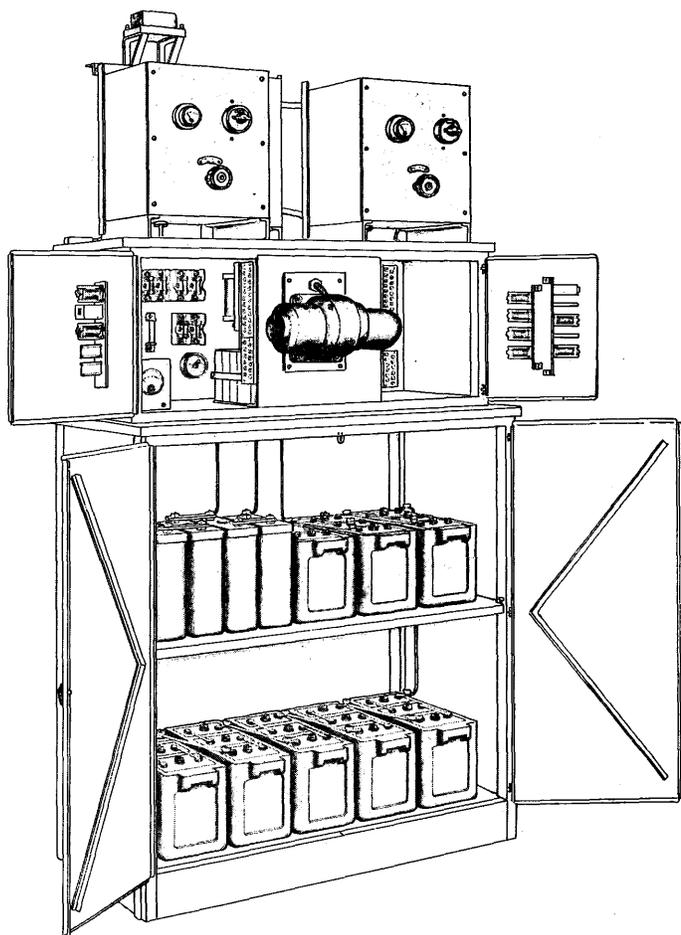

Fig. 4.
5.1 The power plant for the No. 740-A and No. 740-B P B X's is approximately 4 feet long and 7 feet high (see Fig. 4). It consists of a 23-cell storage battery, a continuously operated charging set and four counter E.M.F. cells controlled by a voltmeter relay. The 23-cell radio type battery is made up of seven three-cell units and one unit having two active cells and one dummy cell. The counter E.M.F. cells which are in two groups and have no polarity, are known as NAK cells. The storage cells are enclosed in a steel cabinet having a green finish.